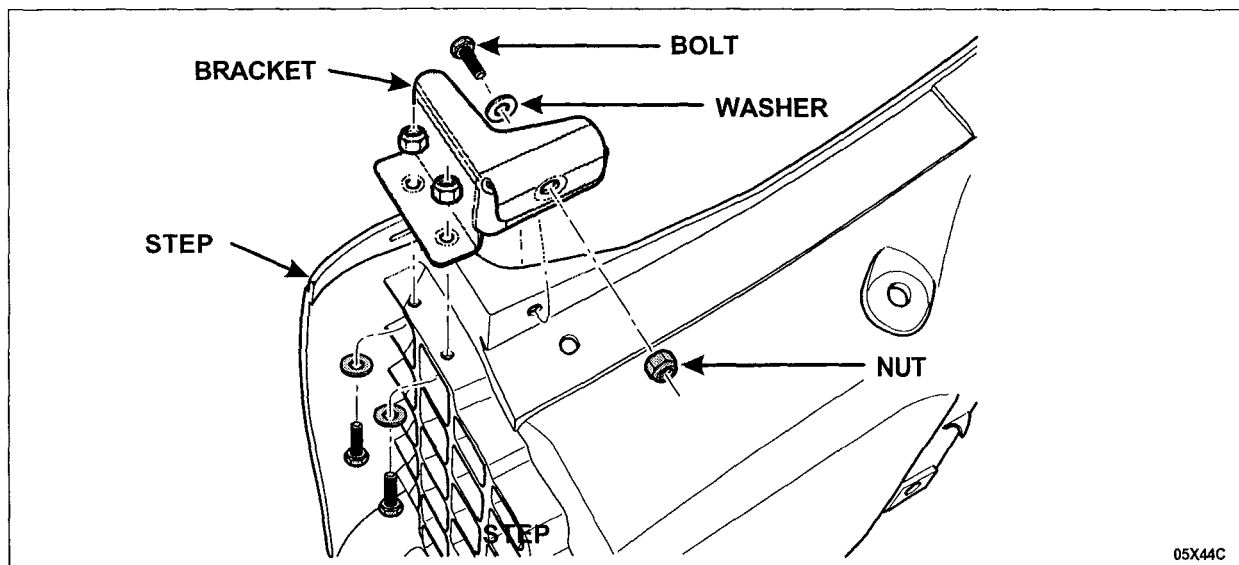

FIGURE 3
4. Using the bracket as a drilling template, locate and drill the three (3) holes using a 7 mm (1/4 inch) drill bit.
5. Using the supplied hardware, attach the bracket to the step. Insert the three (3) bolts with washers through the front of the step, then install the locknuts on the back of the step. Tighten the bolts and nuts to 11 Nm (8 lb-ft). See Figure 3.